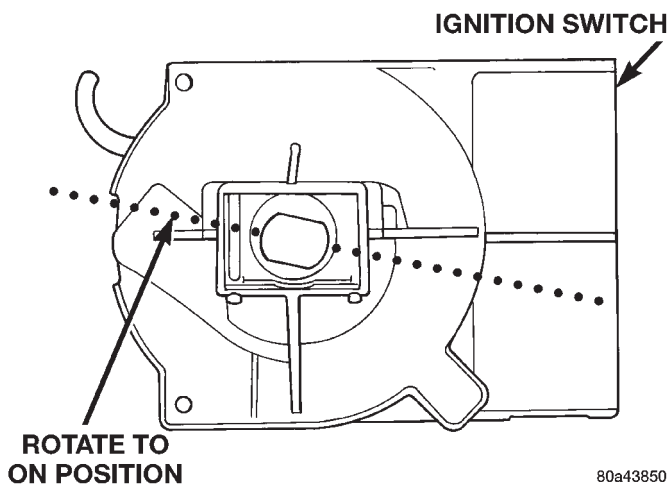

Fig. 42 Switch In ON Position
- (1) Before installing ignition switch, rotate the slot in the switch to the ON position (Fig. 42).
- (2) Connect two electrical connectors to rear of ignition switch. Make sure that locking tabs are fully seated into wiring connectors.
- (3) Position switch to column and install tamper proof screw. Tighten screw to 3 N·m (26 in. lbs.).
- (4) Install steering column lower cover.